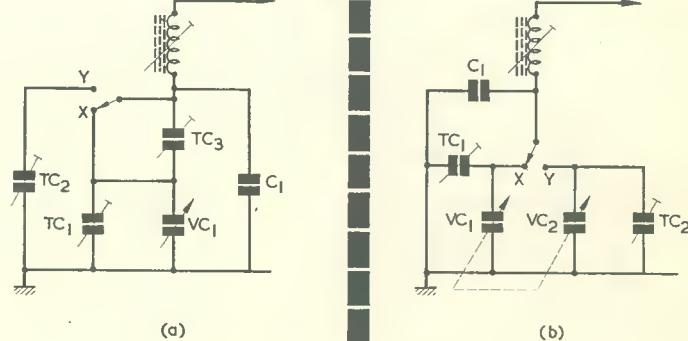

Fig. 5. V.F.O. tuned circuits with switched coverage
The power supply for this receiver is given by the power pack described in the December 1966 issue of this magazine and the writer has been informed that back numbers of that issue are still available for those who have not seen a copy. However, for those who wish to incorporate a power supply on the same chassis as the receiver, a suitable circuit is shown in Fig. 5. With the prototype the power supply is, of course, a separate unit, the writer favouring this method for the reasons that it considerably assists with the reduction of mains hum and that the separate power supply may be used for other items of equipment if so desired. The power supply featured in the December 1966 issue is fitted with a voltmeter and a milliammeter and this may not be required by all beginners—hence the circuit shown here. Any power supply, provided it is fully isolated from the mains by a mains transformer, and incor-
Fig. 5 shows two ways of altering v.f.o. range. Each employs a 2-way switch. In Fig. 5 (a), with the switch
The circuit in Fig. 5 (b) employs a 2-gang capacitor, and gives very
* In Fig. 5 (a) the values of TC_2 and TC_3 depend upon the values of TC_1 , VC_1 and C_1 , and may be found experimentally. In Fig. 5 (b), TC_2 should have a maximum value equal to or greater than TC_1 plus two-thirds of VC_1 . Initially adjust TC_2 so that VC_2 , without vanes removed, tunes to 3.6 Mc/s near the minimum capacitance end of its range. Then remove vanes to achieve the 3.5-3.6 Mc/s range required. This approach obviates the risk of removing too many vanes.—EDITOR.